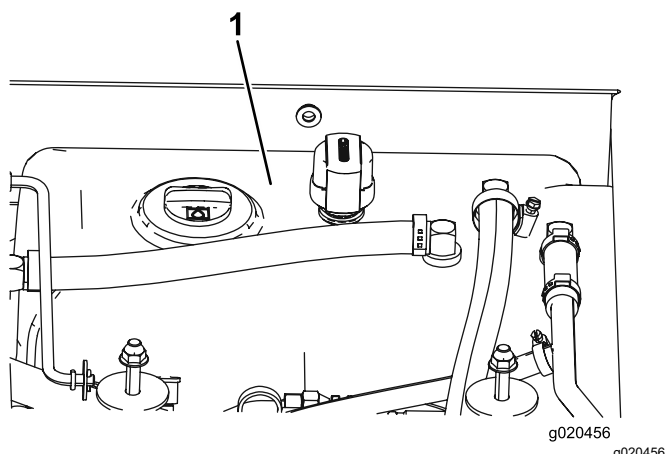

Figure 116
4. Fill the reservoir (Figure 116) with hydraulic fluid; refer to Checking the Hydraulic Fluid \(page 78\).